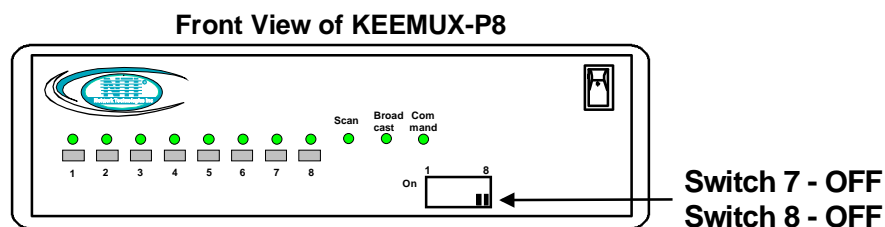

Figure 1- Keyboard dip-switch configuration
**FYI:** Should switch 7 or 8 get changed to the “ON” position, it will be necessary to power-down the entire system (including CPUs), change the dip-switches back to the “OFF” position, and then power the system back up. If it is necessary to replace one PS/2 keyboard with another one, the keyboard can be hot-swapped without powering-down. Refer to Fig. 1 for instructions on proper keyboard dip-switch configuration.